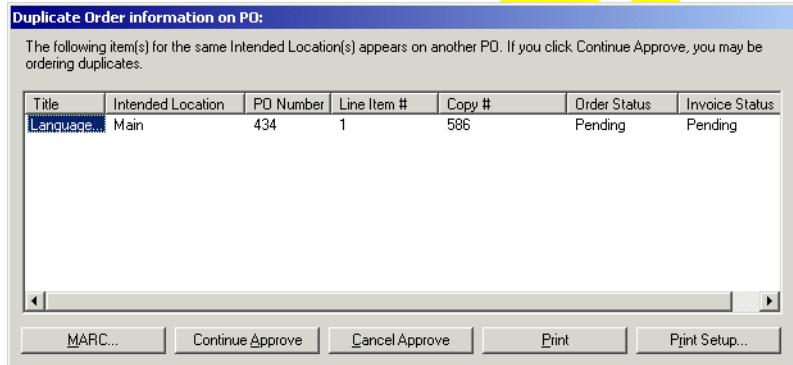

Figure 6-60. Duplicate Order Information on PO dialog box
4. Click the **Check for Duplicates** check box if you want the system to check for duplicate titles for the same location when a purchase order is approved. The system checks duplicate line items based on the Order Location and the Bibliographic ID. If any orders match these two criteria, the **Duplicate Order Information on PO** dialog box opens (see Figure 6-60).
The **Duplicate Order Information on PO** dialog box (Figure 6-60) opens when you approve a purchase order that contains titles that are on more than one purchase order for the same location, or duplicate purchase order numbers. (Providing that you checked the **Check for Duplicates** check box of the Approve Options section when approving a PO.)